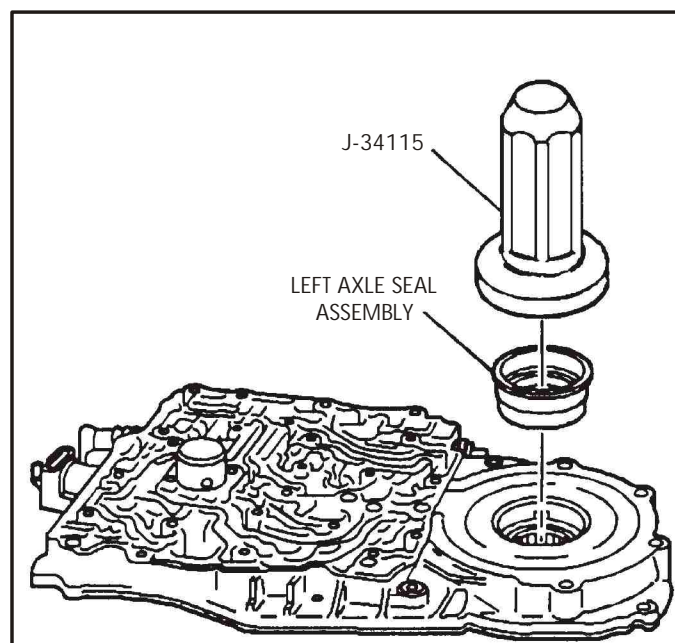

Figure 135
3. Install a new left hand axle seal into the case cover using axle seal driver J-34115, as shown in Figure 135.